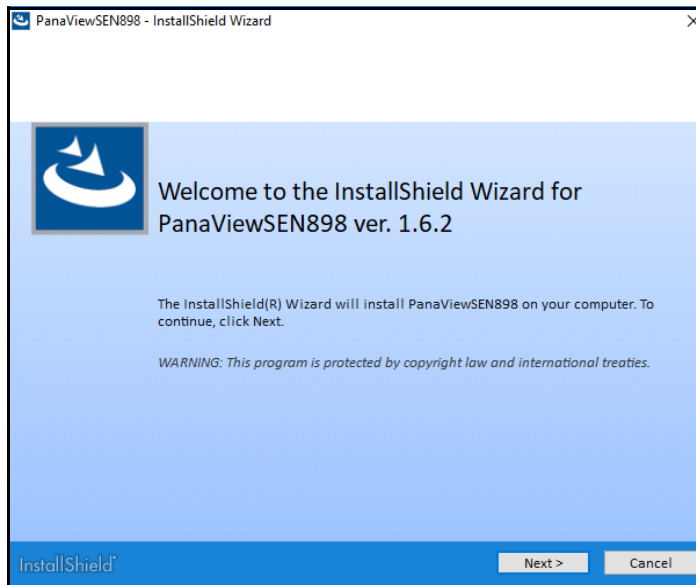

Figure 1: *Install-Shield* Wizard Screen
2. The *Install-Shield* wizard, shown in *Figure 1* below will launch and guide you through the installation process. Click [Next] button to continue.